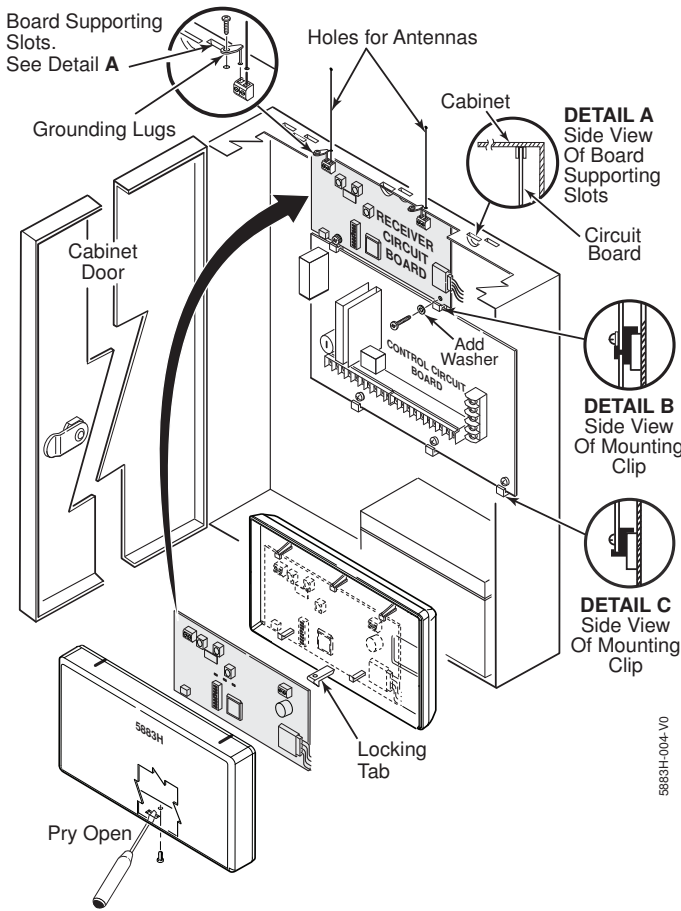

Figure 2: Installing the 5883H Board in the Control's Cabinet
- If the 5883H is to be mounted within the control's cabinet (refer to Figure 2):
- Hang two short (black) mounting clips (provided) on the raised cabinet tabs, as shown in Detail B of Figure 2.
- Mount the module in the selected location. For greatest security, use all four mounting holes (two key slot holes and two round holes) in the plastic base. (Refer to Figure 2 above.)